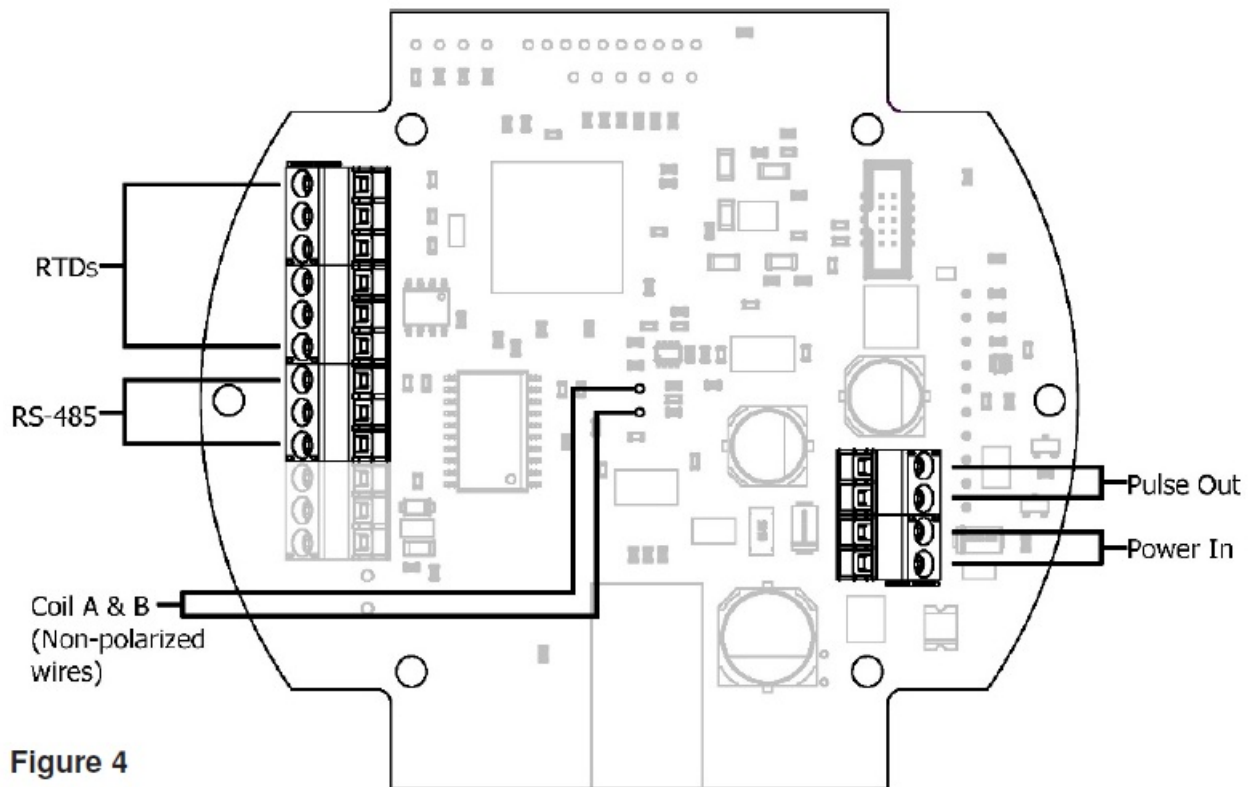

Figure 4
insulation gel. Repeat with the remaining sensor and PC board wire (see Figure 4, 6, or 8 depending on your QSI version). (Make sure the power is disconnected from external cables before beginning this step): Route external cables through the strain relief(s), and then tighten the dome nut securely around the cable to provide an environmental seal.
9. Connect cable wires to the QSI PC board screw terminals (see Figure 4, 6, or 8 depending on your QSI version).
10. Mount the cover plate on the base making sure the seal is seated properly between them. Replace the (6) previously removed screws to secure the cover plate to the base. Tighten screws.